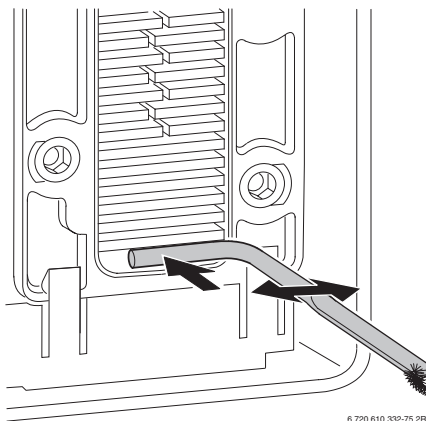

Fig. 55
- Flush the heat exchanger from the top. Refer to fig. 55.